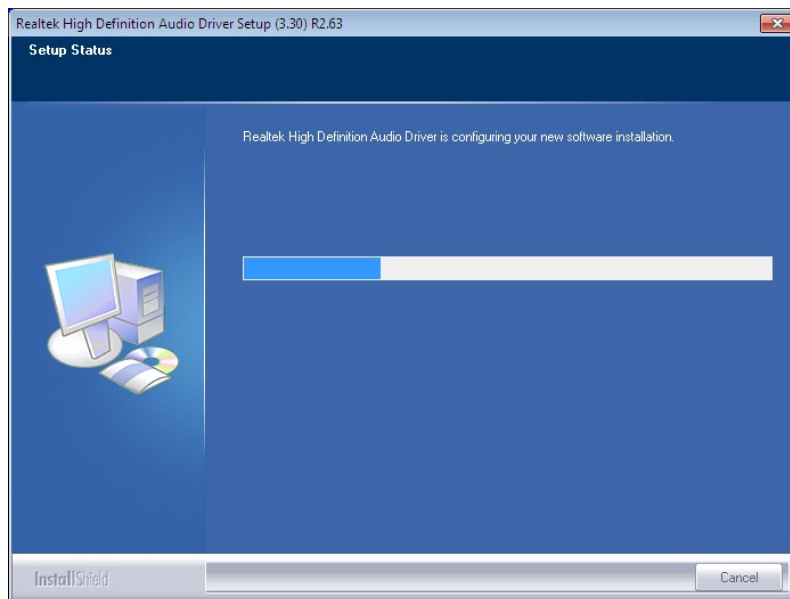

Figure 6-26: Audio Driver Installation
Step 7: The installation progress can be monitored in the progress bar shown in **Figure 6-26**.